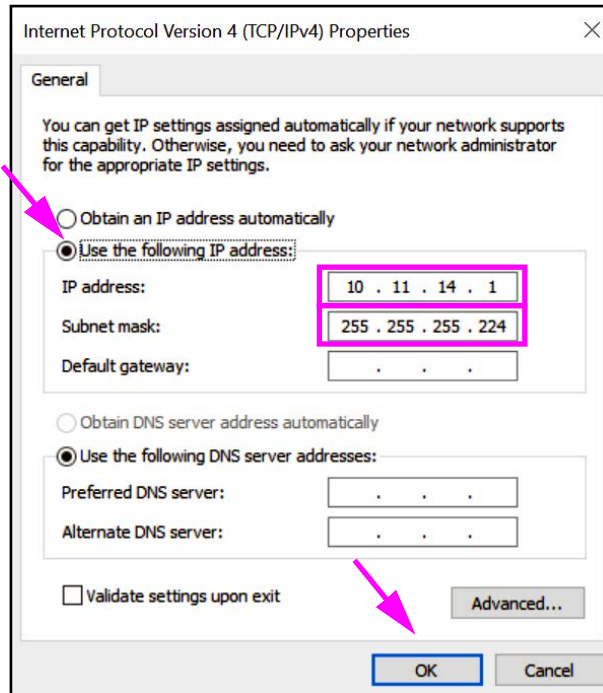

Figure 2-29. Internet Protocol Version 4 (TCP/IPv4) Properties Screen
6. Right click the **GeneXpert Connection** entry. A drop-down menu appears. See Figure 2-29.